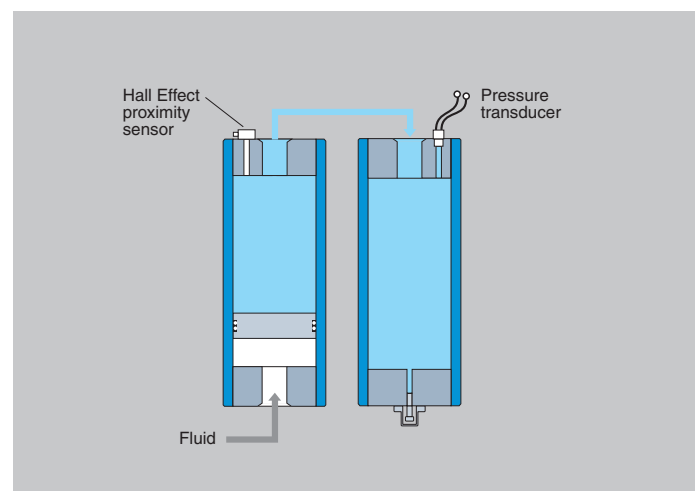

Fig.14c Hall Effect sensor registers proximity of piston to end cap
- In applications where an accumulator is coupled to a gas bottle, a Hall Effect proximity sensor can be installed in the accumulator gas end cap (Fig.14c) to detect when the piston comes within .050 inch of the cap. This system would provide a warning when precharge pressure has dropped and remedial action should be taken.